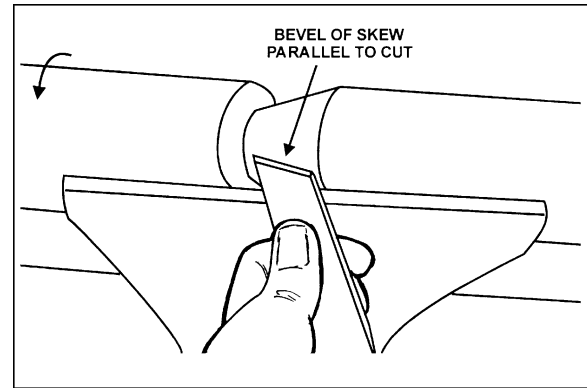

Figure 35
- With the bevel parallel to the right side of the cut, raise the handle and push the tool in to the desired depth, as shown in Figure 35.